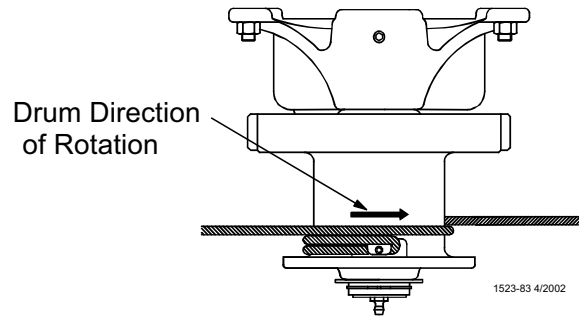

Figure 11. Power Winch Drum Rotation
5. Turn the winch drum one full revolution. Guide the cable against the flange at the bottom of the winch drum. The cable must not wrap over itself on the drum, but should be wrapped as close as possible to each previous wrap. See Figure 11.